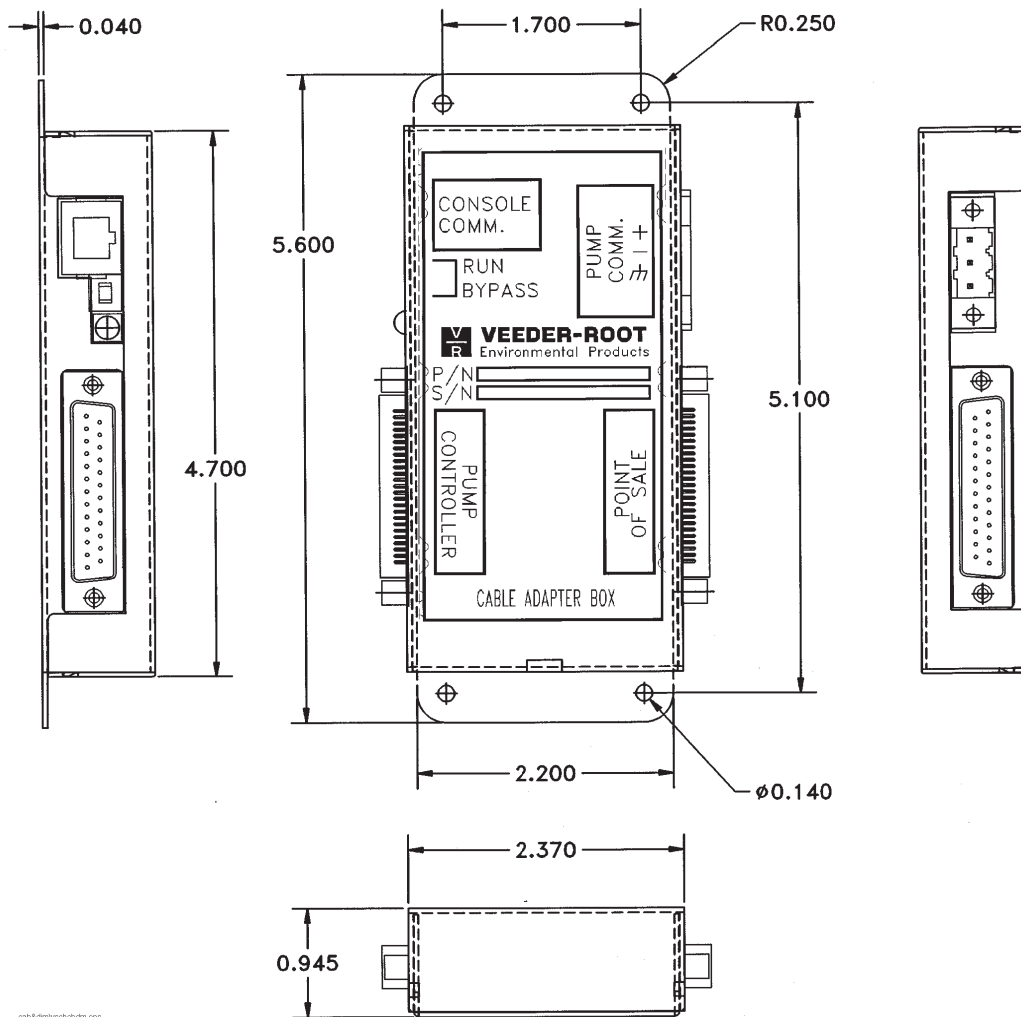
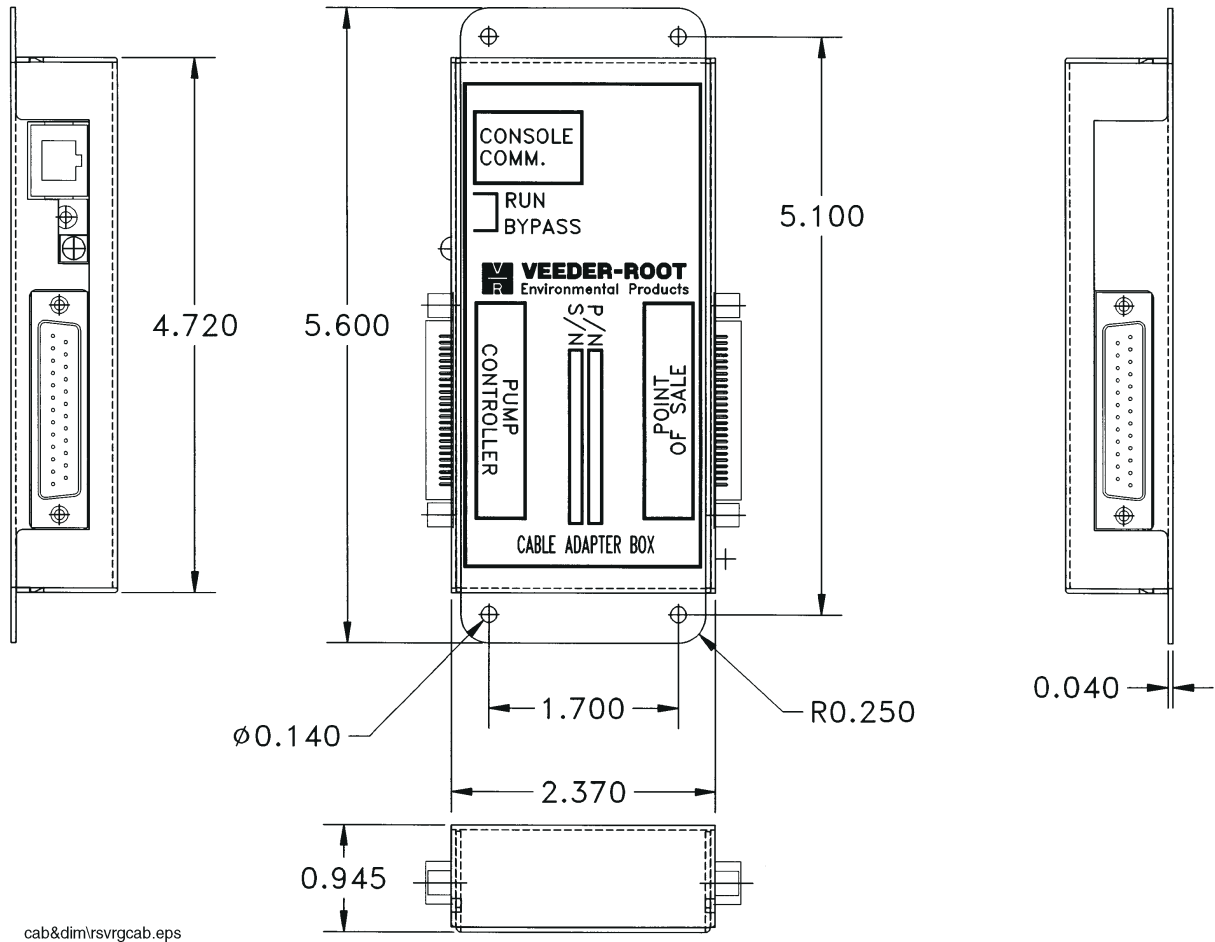

Figure 3. Dimensions of Current Loop Cable Adapter Box
Figure 4. Dimensions of RS-232 Cable Adapter Box
The Cable Adapter Box (CAB) should be placed as close as possible (within 6 feet) to the Pump Controller Box (see Figure 3 on page 6 and Figure 4 on page 7).
3. Mount the CAB using either the 3M “hook and loop” pads provided in the kit, or utilize the mounting ears on the CAB (see Figure 3 on page 6 and Figure 4 on page 7). Choose a surface that is clean, dry, and oil-free. For the 3M “hook and loop” pads, remove the backing paper from the back of the pad. Place the adhesive side on the surface and press firmly into position. The adhesive must be allowed to set for a minimum of one hour before attaching or removing the CAB.